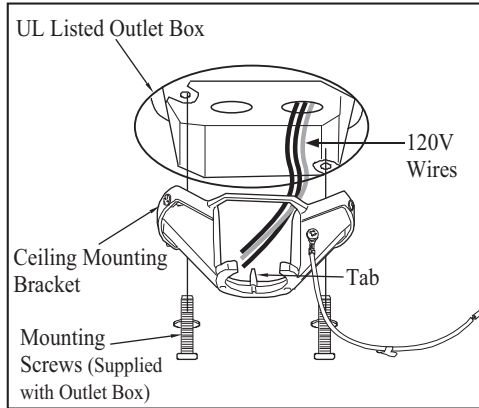

Figure 11
1. Pass the 120-volt supply wires through the center hole in the ceiling mounting bracket as shown in Figure 11.
2. Install the ceiling mounting bracket on the outlet box with the screws and washers provided with your outlet box (Figure 11). When using “close-to-ceiling” mounting, it is important that the mounting bracket be level. If necessary, use leveling washers (not included) between the mounting bracket and the outlet box. Note that the flat side of the mounting bracket is toward the outlet box. (Figure 11)